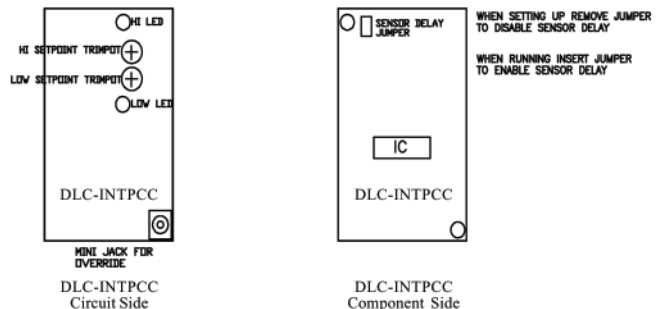

Figure 3
1. Verify that the input delay timer jumper is removed. (No time delay). This jumper is explained in the next section. See figure 3.
2. Verify that the override pin is removed. (No override). This pin is explained in the next section. See figure 3.
The DLC-INTPCC has two indicators. See figure 3. These indicators are defined as follows: